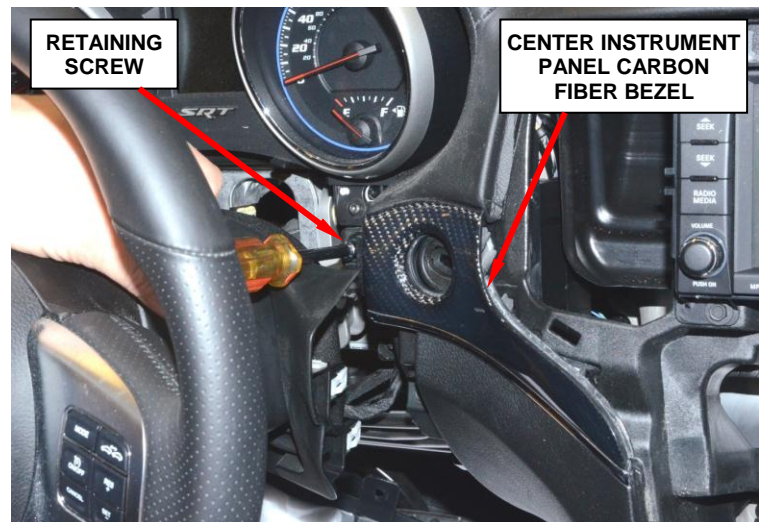

Figure 9 – Center Bezel Retaining Screw
17. Remove and save the center instrument panel carbon fiber bezel retaining screw (Figure 9).